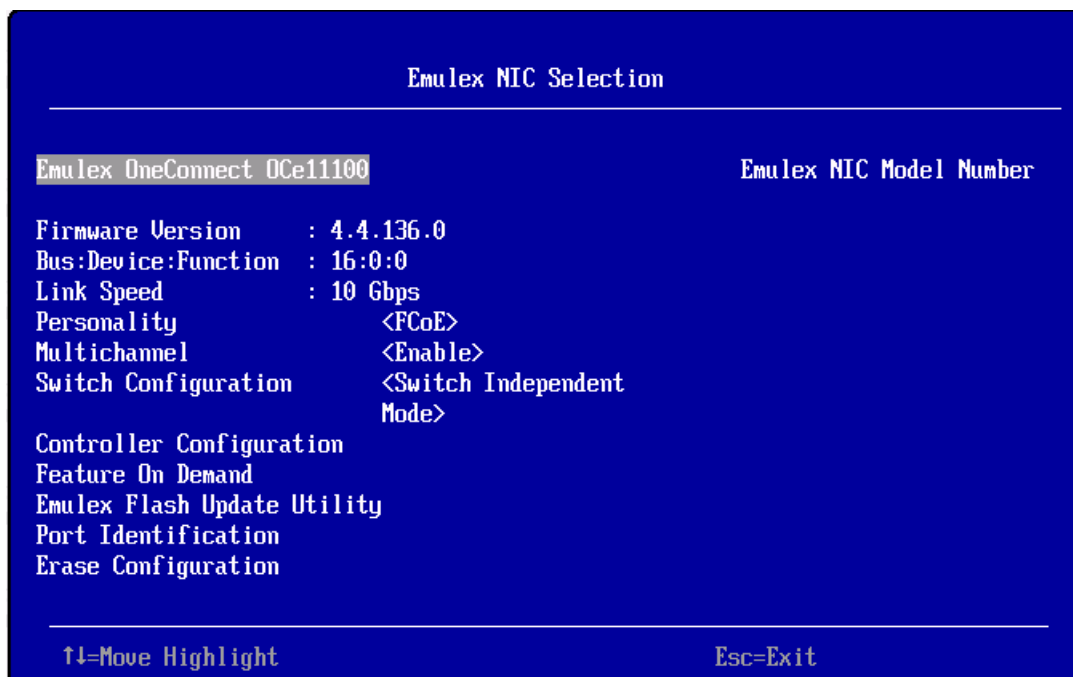

Figure 10-4 Emulex NIC Selection Screen
4. The Emulex NIC Selection screen (Figure 10-4) shows information for the selected adapter. Select **Emulex Flash Update Utility** and press <Enter>. The Emulex Flash Update Utility screen is displayed. This utility displays all available media and installs the flash file on the adapter.
- Reset the system. The latest version information for the adapter is displayed in the Emulex NIC Selection screen (Figure 10-4).